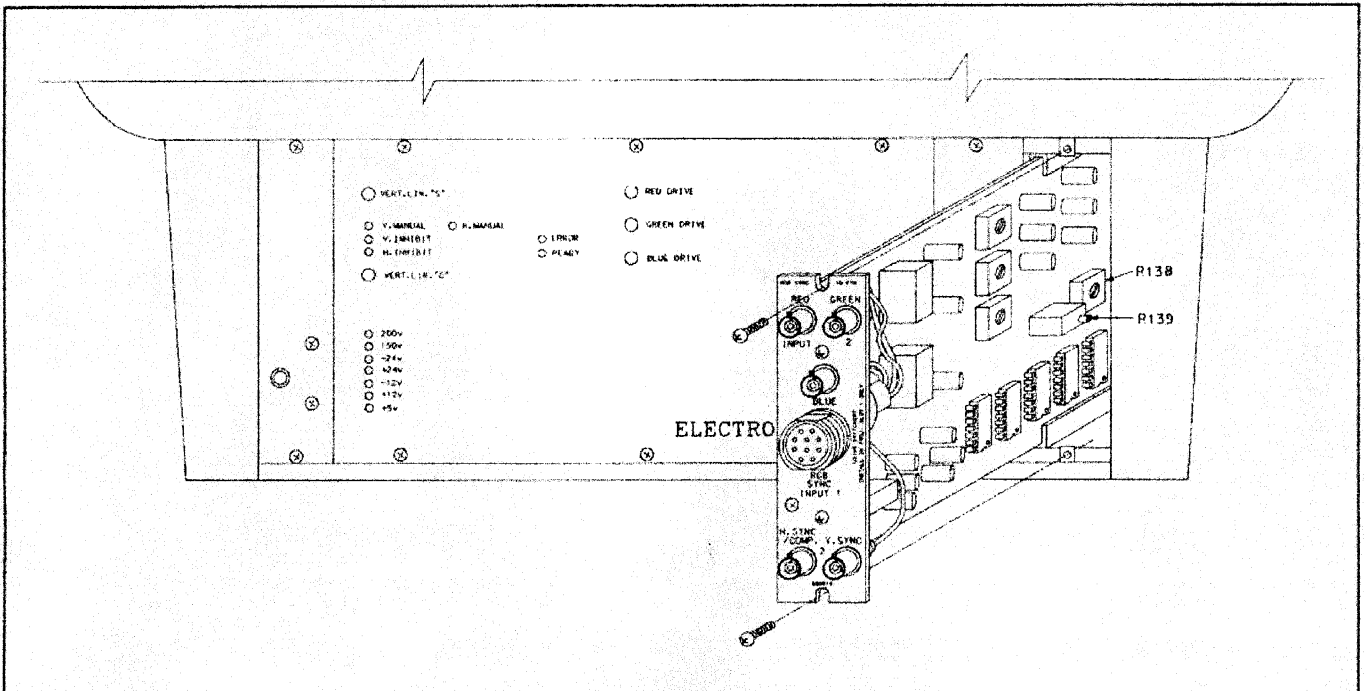

FIGURE 10-1. RGB SYNC 10 PIN Input Module Removal
a) Remove the upper and lower mounting screws from the module. See Figure 10-1.